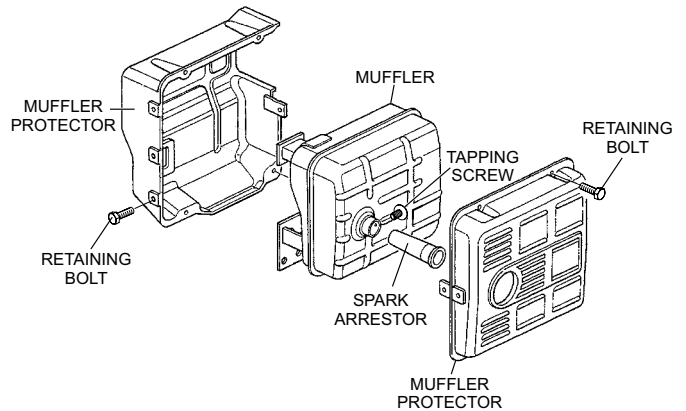

**Figure 31. Cleaning Foam Element**
3. Clean foam element (Figure 31) in warm, soapy water or non-flammable solvent. Rinse and dry thoroughly.